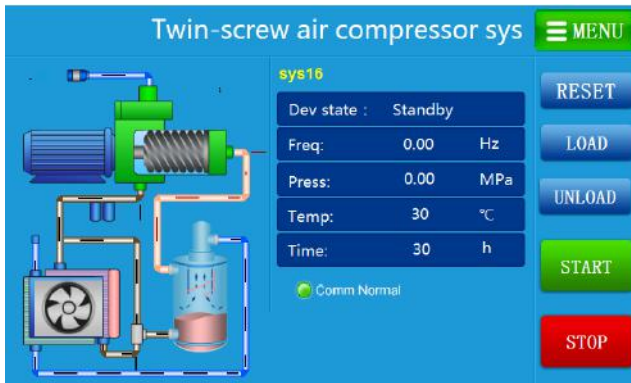

Figure 4-3 Working interface
3. Click **Click Enter** to enter the working environment interface, as shown in Figure 4-3.